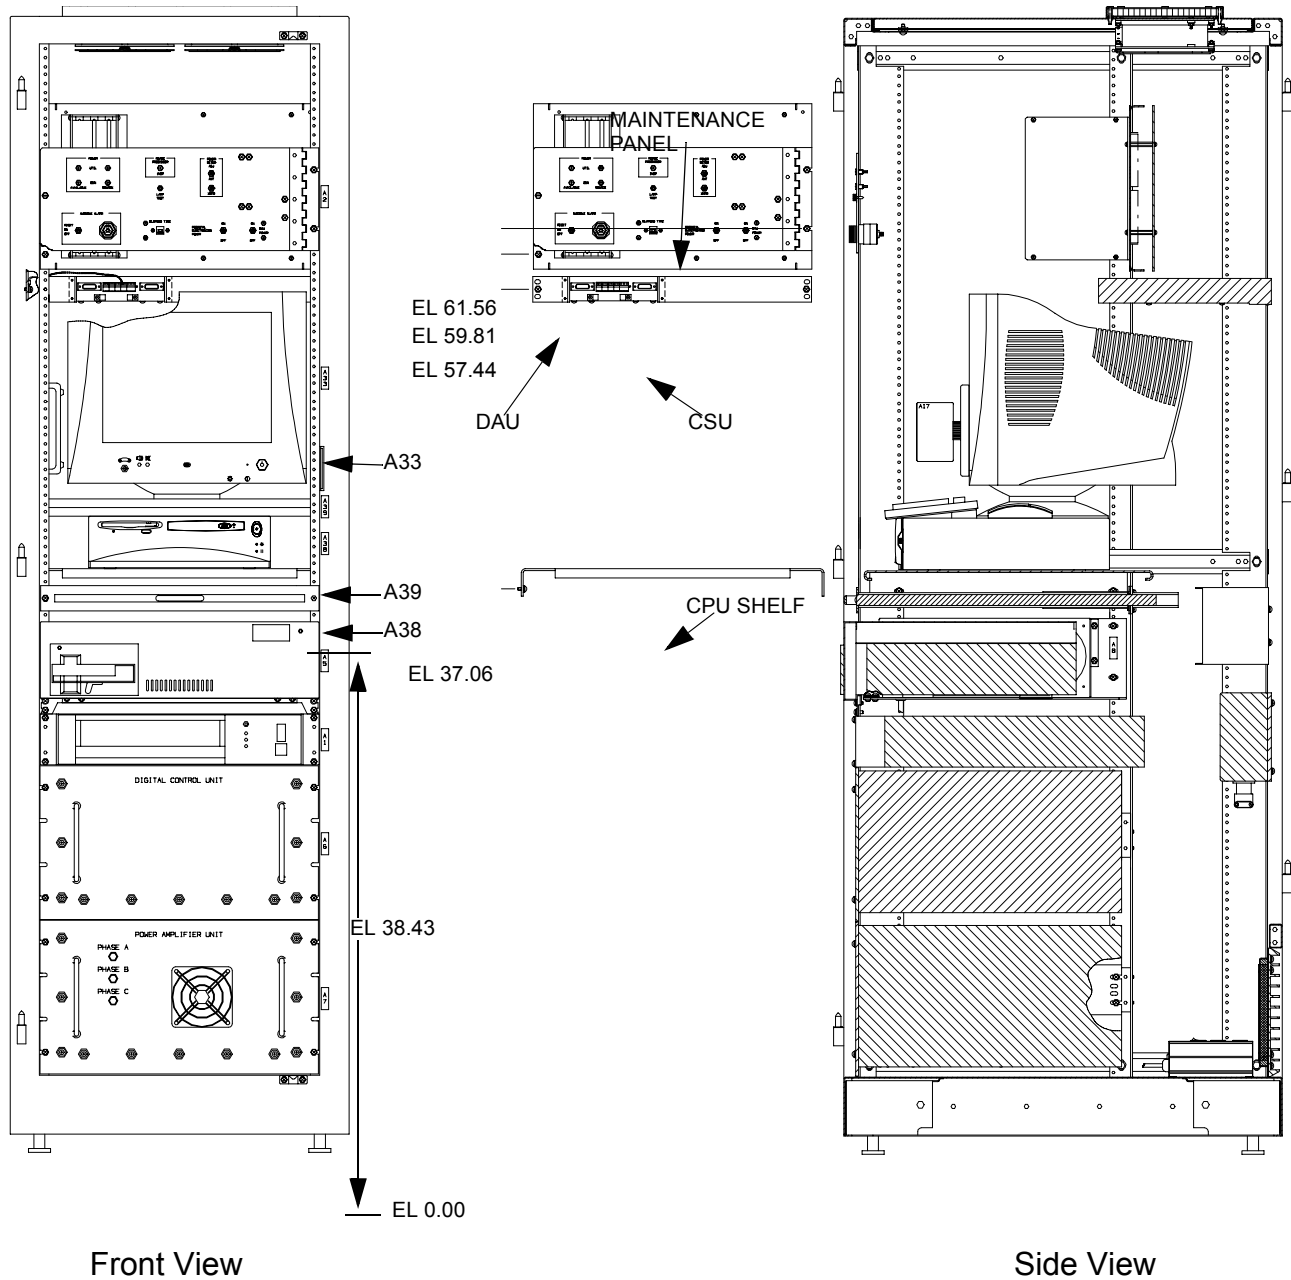
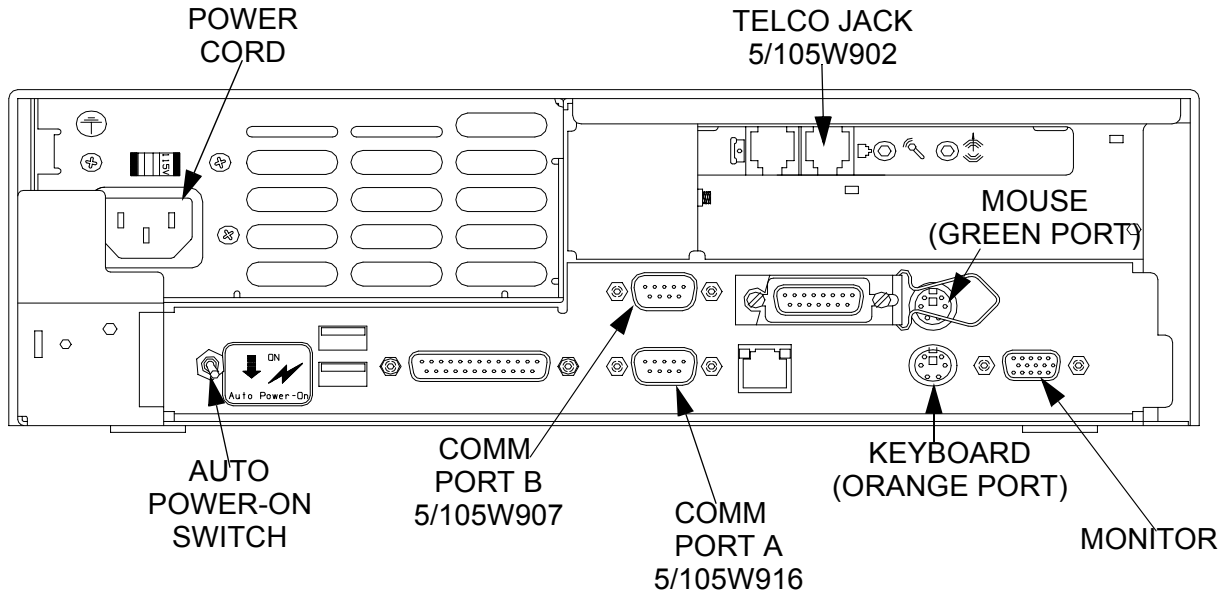

Figure 6 RDA Channel 2 Remote Access Terminal Cabinet Position
Figure 7 CPU Connection Points
- b. Reference figure 6 and determine if the CSU and the Data Acquisition Unit (DAU) both need to be moved, or if repositioning the CSU alone will provide enough room to install the new equipment. Measure from 0.0 elevation to the CSU. Next measure from 0.0 elevation to the DAU bracket. The elevations measured should be within ½ inch of what is shown in figure 6. If not, perform the following steps to relocate the DAU. However, if the elevation for the DAU is correct and only the CSU needs to be repositioned, proceed to step 3.d
- (1) Unplug the CSU transformer from the power strip located in the Radar Data Acquisition Status and Control (RDASC) cabinet.
- (2) Remove cables P1 and J1.
- (3) Remove all wires from TB1.
- (4) Remove the CSU and mounting bracket from UD5.
- (5) Reconfigure the CSU mounting brackets to match the following drawing:
4. Install the new RDA Remote Access Terminal by performing the following steps: (See figure 5 for channel 1 and figure 6 for channel 2)
- a. Position the CPU on the RDA MMI shelf as far back as possible. It may be necessary to tilt the CPU and move the A/B switch to allow the CPU to fit into the cabinet between the front and middle rails. (See figure 5 for channel 1 and figure 6 for channel 2)
- c. Position the PC monitor on top of the CPU as far back as possible. (See figure 5 for channel 1 and figure 6 for channel 2)
- e. Position the keyboard on the CPU as far forward as possible. (See figure 5 for channel 1 and figure 6 for channel 2)
- f. Position the Surge Suppressor (Isotel4, UD5/105E1) on the bottom of the center cabinet behind the Antenna Power Amplifier (UD5/105A7) for channel 2, and at the bottom rear of channel 1. (See figure 5 for channel 1 and figure 6 for channel 2)
- g. Using the 9-to-25 pin serial adaptor (UD5/105CP1), provided in the kit, connect cable 5/105W907 to the CPU COMM Port B. See figure 7 for the location of COMM Port B. This was the EIA cable.
- h. Using the Null Modem Adaptor (UD5A41), provided in the kit, connect cable 5/105W916 to the CPU COMM Port A. See figure 7 for the location of COMM Port A. This was the AUX cable.
- i. Connect the 10-foot Telephone Cord (UD5/105W902A), provided in the kit, between the CPU modem TELCO jack and the Surge Suppressor (Isotel4, UD5/105E1) OUT jack. (See figure 7)
- j. Connect the CPU monitor video cable to the CPU video jack. See figure 7 for the location of the monitor port.
- k. Connect the mouse to the CPU mouse jack. (Green upper port) (See figure 7)
- l. Connect the keyboard to the CPU keyboard jack. (Orange lower port). (See figure 7)
- n. Connect the CPU power cord between the CPU and the Surge Suppressor (Isotel4, UD5/105E1). (See figure 5 for channel 1 and figure 6 for channel 2)
- (1) Disconnect the existing telephone cable from the RDA shelter telephone and connect the Duplex Jack (1CP1) to the telephone jack.
- (2) Connect the existing Telephone Cable, disconnected in the previous step, to the Duplex Jack (1CP1).
- x. Ensure the power on switch on the back of the CPU is turn to "Auto Power-On", enabling the computer to reboot after power resumes. See figure 7 for the location of the Auto Power-On switch.